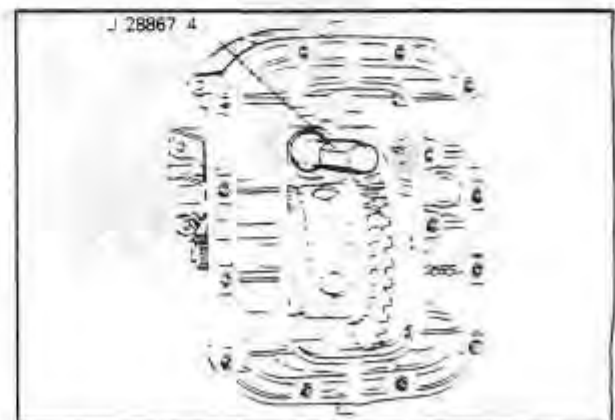

Fig. 83 PLANETARY SHAFT SEAL
9. Install the new planetary shaft lip seal in the final drive case using the special tool J 28867 4 (part of the A T Tool Kit). *Fig. 83*